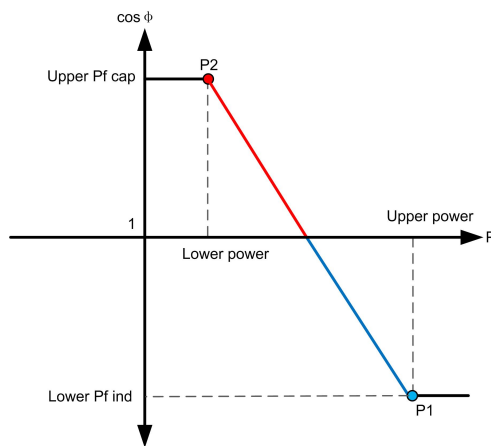

figure 10-3 Q(P) mode curve
Q(P) upper PF	Power factor of point P1 in "figure 10-3 Q(P) mode curve "
Q(P) lower PF	Power factor of point P2 in "figure 10-3 Q(P) mode curve "
Q(P) upper power(%)	Output power of point P2 in "figure 10-3 Q(P) mode curve "
Q(P) lower power(%)	Output power of point P1 in "figure 10-3 Q(P) mode curve "